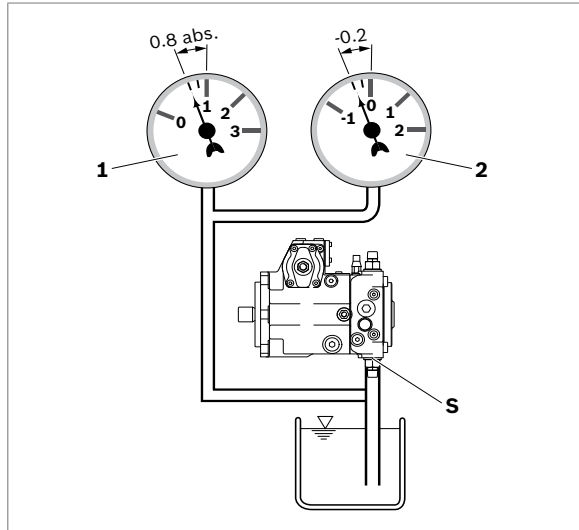

Fig. 9: Suction pressure
- ▶ Make certain that a minimum suction pressure of 0.8 bar absolute is present at port "S" (0.5 bar absolute for cold start) during operation in all installation positions and installation locations for the axial piston pump, see Fig. 9. See data sheet for pressure values.